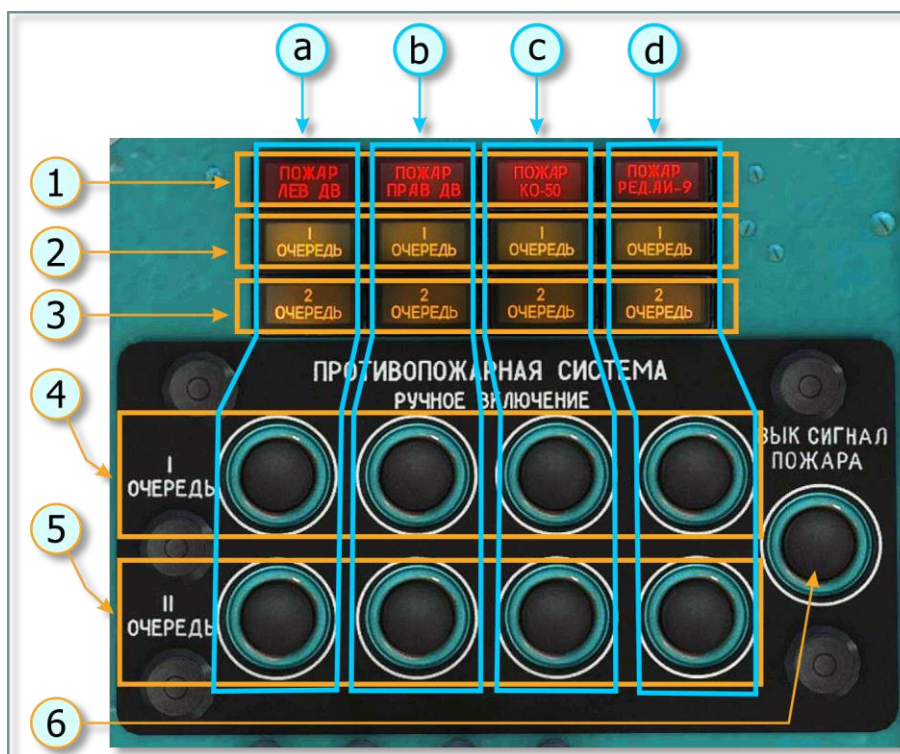

Fig. 7.27. Fire protection system switchboard on Center overhead console
Light alarm. Fire light alarm system comprises five indicating lamps with red filters installed on the fire protection system switchboard, Fig. 7.27, 1:
When setting the ПРОВЕРКА МИГАЛКИ-СИГНАЛ. ЛАМП switch on the pilot's central console to the ПРОВЕРКА МИГАЛКИ (FLASHER CHECK) position, five fire indication lamps should come on in flashing mode (Fig. 7.27, 1 и Fig. 7.28). When setting the ПРОВЕРКА СИГНАЛ. ЛАМП switch on, eight 1 ОЧЕРЕДЬ (1 ORDER) and 2 ОЧЕРЕДЬ (2 ORDER) lamps should come on (Fig. 7.27, 2, 3).
Monitoring system is operated by battery bus via ПРОТИВОПОЖАРНАЯ СИСТЕМА. СИГНАЛИЗАЦ. (FIRE PROTECTION SYSTEM. INDICATION) circuit breaker and КОНТРОЛЬ ДАТЧИКОВ (MONITORING OF SIGNAL DEVICES) rotary switch. Fourteen groups of FAS signal devices are integrated into six monitoring channels (Fig. 7.29, 4). Each of them connected to its switch contact. For monitoring, each switch is required to set to checking channels position alternately. In case of serviceability of signal devices in the groups and its power supply circuits, on the mid section of the electric panel and the left dashboard, appropriate lamps, indicating fire, should come on (Fig. 7.27, 1 и Fig. 7.28).
- the ПОЖАР ЛЕВ ДВ (LEFT ENGINE FIRE) lamp on the fire protection system switchboard (Fig. 7.27, 1-a);
Simultaneously, pyro of extinguishing liquid supply line of the first order ballon detonates. At that, the 1 ОЧЕРЕДЬ (1 ORDER) indicator lamp of the first order operation on the fire protection system switchboard comes on (Fig. 7.27, 2-a).
When fire is extinguished, during not more than 10 s, thermal electromotive force on any signal devices channels disappears and the ПОЖАР ЛЕВ ДВ (LEFT ENGINE FIRE) lamp goes off, but the 1 ОЧЕРЕДЬ (1 ORDER) lamp continues to come on. When the lamps do not go off in 10 s, press the ВЫК. СИГНАЛИЗАЦИИ ПОЖАРА (ALARM SILENCE PUSH BUTTON) button (Fig. 7.27, 6).
When the first order ballon is not operated automatically, the ПОЖАР ЛЕВ ДВ (LEFT ENGINE FIRE) lamp on the fire protection system switchboard and the ПОЖАР (FIRE) lamp on the left dashboard come on, but the 1 ОЧЕРЕДЬ (1 ORDER) lamp does not come on), it is required to detonate the pyro of extinguishing liquid supply line to the left engine unit of the first order ballon manually by pressing the 1 ОЧЕРЕДЬ (1 ORDER) button for the left engine unit (Fig. 7.27, 4-a).
When the left engine fire is extinguished by the first order ballon, and then there is another unit fire (for example, the unit of the main rotor transmission, the fuel consumed tank and APS (auxiliary power supply)), that is required to detonate the pyro of the second order ballon manually by pressing the 2 ОЧЕРЕДЬ (2 ORDER) button for the unit of the main rotor transmission, the fuel consumed tank and APS (Fig. 7.27, 5-d). After that, the 2 ОЧЕРЕДЬ (2 ORDER) lamp, located under the ПОЖАР РЕД.АИ-9 (ROTOR TRANSMISSION АИ-9 FIRE) lamp on the fire protection system switchboard, comes on (Fig. 7.27, 3-d).